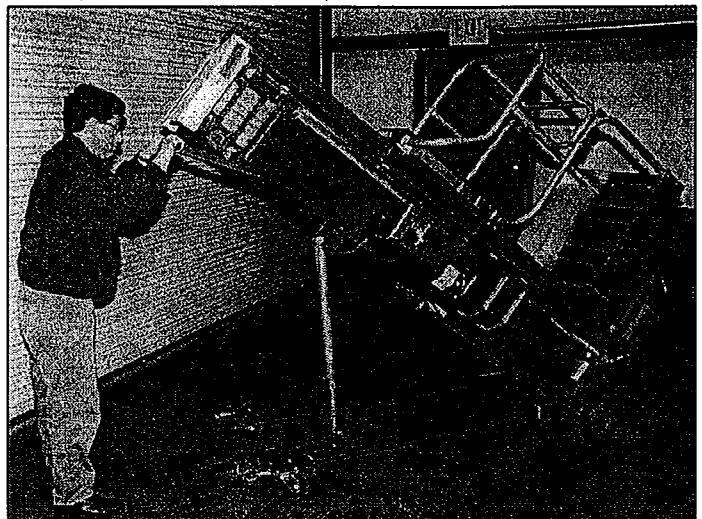

Figure 3-13: Compressing cylinder assembly
6. Pull down on the handle on the back of the mast to compress the cylinder assembly (fig. 3-13).